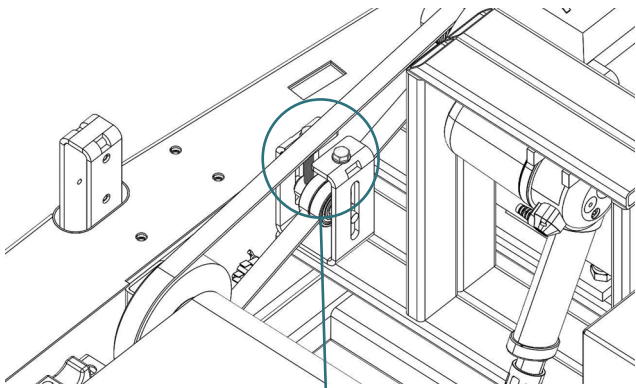

FIGURE 5
7. Loosen screws for motor belt tensioner, see fig: 5